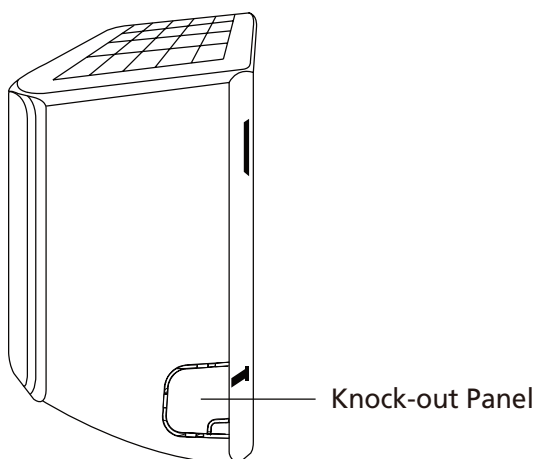

Fig. 3.3
2. If the wall hole is behind the unit, keep the knock-out panel in place. If the wall hole is to the side of the indoor unit, remove the plastic knock-out panel from that side of the unit. (See **Fig. 3.3**). This will create a slot through which your piping can exit the unit. Use needle nose pliers if the plastic panel is too difficult to remove by hand.